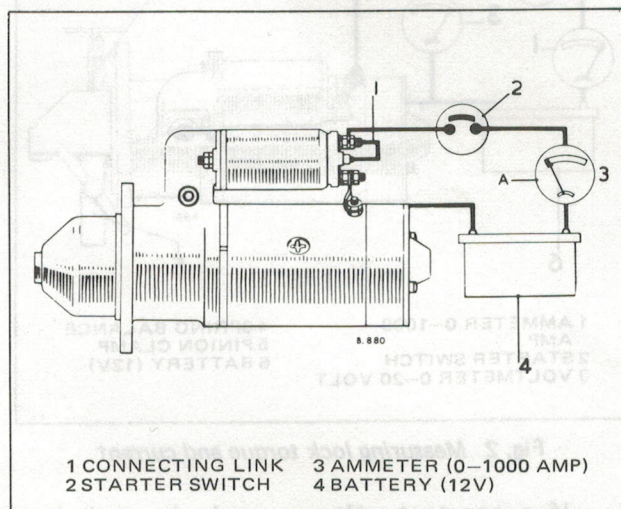

Fig. 1 Measuring light running current
1. Secure the starter motor in a vice then connect the motor in series with the starter motor switch, an ammeter and a 12 volt battery (see Fig. 1). Do not use small gauge cables as they are liable to burn out. A fixing lug on the drive end bracket is a suitable earth point on the starter motor.